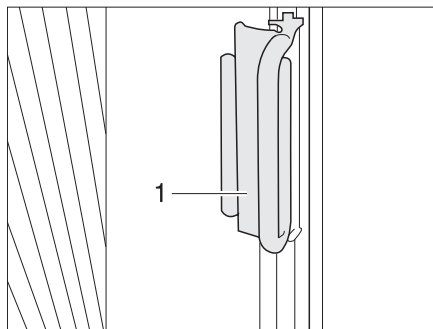

Fig. 27 Locking mechanism for Roman shades on driver's/front passenger's windows
- On the Roman shades for the driver's and passenger's window, push the handle (Fig. 27,1) onto the cap. The Roman shade is secured.